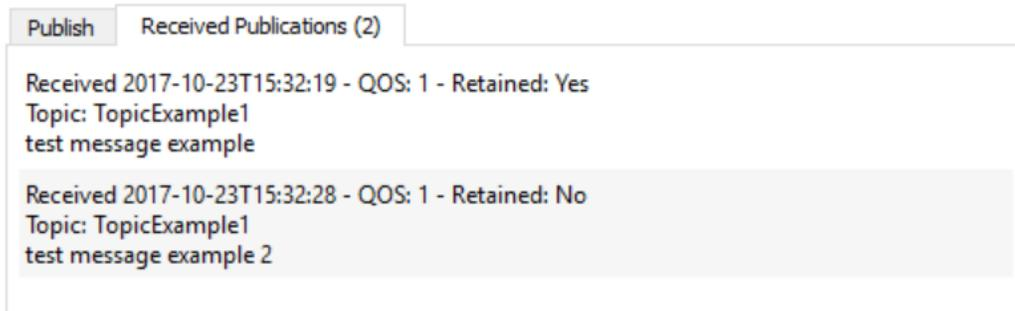

Figure 24 MQTT Received Publications
- Any publication received from the broker can be seen by selecting the “Received Publications” tab (see Figure 24).
- To publish messages to the broker, select the “Publish” tab (see Figure 24).